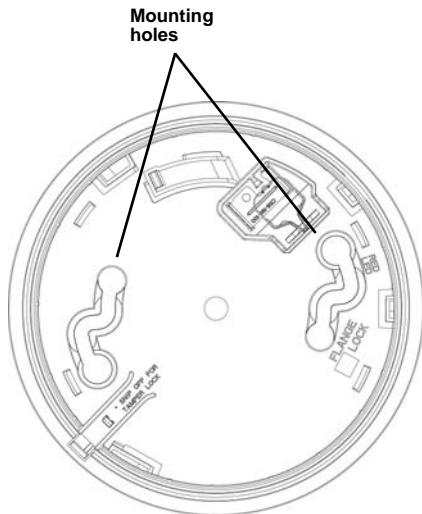

Figure 3 Mounting the wireless smoke detector
- Referring to figure 3, use the included mounting screws and dry wall anchors to mount the wireless smoke detector base.